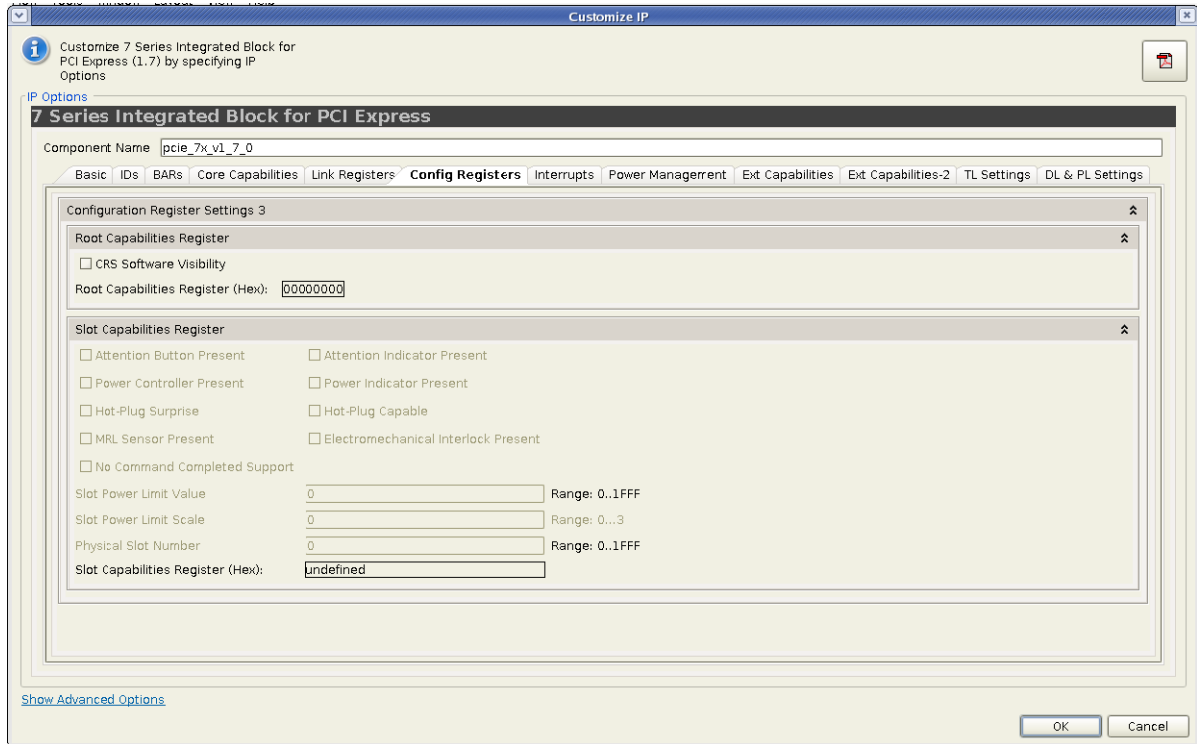

Figure 4-9: Config Register
- **Attention Button Present:** Indicates the Attention Button is implemented. When set, indicates that an Attention Button for this slot is implemented on the chassis. This option is disabled when "Device_Port_Type" is not "Root Port of PCI Express Root Complex." This is enabled only when the Slot Implemented parameter in the Core Capabilities tab is selected (see Figure 4-9).
- **Attention Indicator Present:** Indicates the Attention Indicator is implemented. When set, indicates that an Attention Indicator for this slot is implemented on the chassis. This option is disabled when "Device_Port_Type" is not "Root Port of PCI Express Root Complex." This is enabled only when the Slot Implemented parameter in the Core Capabilities tab is selected (see Figure 4-9).
- **Power Controller Present:** Indicates the Power Controller is implemented. When set, indicates that a software programmable Power Controller is implemented for this slot. This option is disabled when "Device_Port_Type" is not "Root Port of PCI Express Root Complex." This is enabled only when the Slot Implemented parameter in the Core Capabilities tab is selected (see Figure 4-9).
- **Power Indicator Present:** Indicates the Power Indicator is implemented. When set, indicates that a Power Indicator is implemented on the chassis for this slot. This option is disabled when "Device_Port_Type" is not "Root Port of PCI Express Root Complex." This is enabled only when the Slot Implemented parameter in the Core Capabilities tab is selected (see Figure 4-9).
- **Hot-Plug Surprise:** When set, indicates that an adapter in this slot might be removed from the system without any prior notification. This option is disabled when "Device_Port_Type" is not "Root Port of PCI Express Root Complex." This is enabled only when the Slot Implemented parameter in the Core Capabilities tab is selected (see Figure 4-9).
- **Hot-Plug Capable:** When set, indicates that this slot is capable of supporting hot-plug operations. This option is disabled when "Device_Port_Type" is not "Root Port of PCI Express Root Complex." This is enabled only when the Slot Implemented parameter in the Core Capabilities tab is selected (see Figure 4-9). The checkbox in the Vivado IDE advertises the capability and it does not do anything. You need to use the presence signal on your card, route it to an input into the FPGA, and use that input as presence detects and writes through the management interface to set the bit.
- **MRL Sensor Present:** Indicates MRL Sensor implemented. When Set, indicates that an MRL (Manually operated Retention Latch) sensor is implemented for this slot, on the chassis. This option is disabled when "Device_Port_Type" is not "Root Port of PCI Express Root Complex." This is enabled only when the Slot Implemented parameter in the Core Capabilities tab is selected (see Figure 4-9).
- **Electromechanical Interlock Present:** When set, indicates that an Electromechanical Interlock is implemented on the chassis for this slot. This option is disabled when "Device_Port_Type" is not "Root Port of PCI Express Root Complex." This is enabled only when the Slot Implemented parameter in the Core Capabilities tab is selected (see Figure 4-9).
- **No Command Completed Support:** When set, indicates that the slot does not generate software notification when an issue command is completed by the Hot-Plug Controller. This option is disabled when "Device_Port_Type" is not "Root Port of PCI Express Root Complex." This is enabled only when the Slot Implemented parameter in the Core Capabilities tab is selected (see Figure 4-9).
- **Slot Power Limit Value:** Specifies the Upper Limit on power supplied to the slot, in combination with Slot Power Limit Scale value. This option is disabled when "Device_Port_Type" is not "Root Port of PCI Express Root Complex." This is enabled only when the Slot Implemented parameter in the Core Capabilities tab is selected (see Figure 4-9).
- **Slot Power Limit Scale:** Specifies the scale used for the Slot Power Limit value. This option is disabled when "Device_Port_Type" is not "Root Port of PCI Express Root Complex." This is enabled only when the Slot Implemented parameter in the Core Capabilities tab is selected (see Figure 4-9).
- **Physical Slot Number:** Specifies the Physical Slot Number attached to this port. This field must be hardware initialized to a value that assigns a slot number that is unique within the chassis, regardless of form factor associated with the slot. This option is disabled when "Device_Port_Type" is not "Root Port of PCI Express Root Complex." This is enabled only when the Slot Implemented parameter in the Core Capabilities tab is selected (see Figure 4-9).